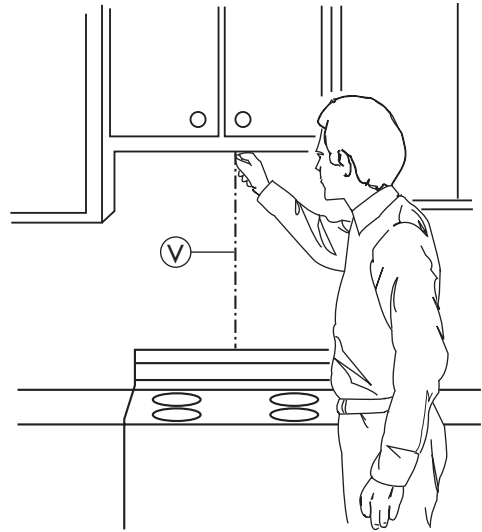

Figure 22
1. Using a plumb line and (metal) measuring tape, find, and mark the vertical center line (V) on the back wall, as in Figure 22.